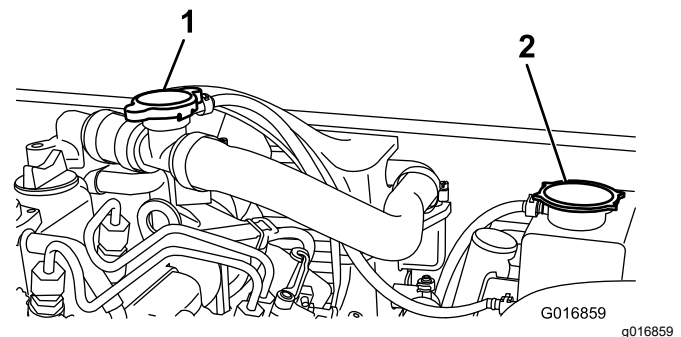

Figure 51
2. Remove the radiator-overflow tank cap (Figure 51).
2. Remove the fill cap (Figure 51) and fill with coolant.
3. Replace the fill cap and remove the radiator-overflow tank cap (Figure 51).